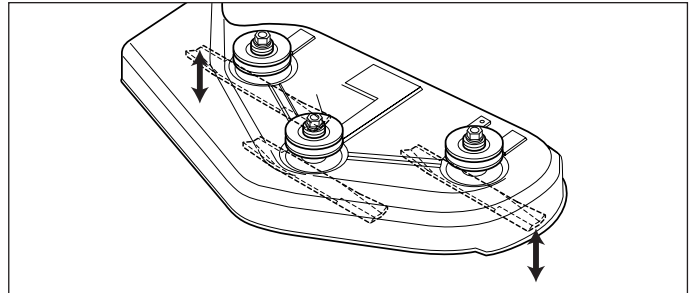
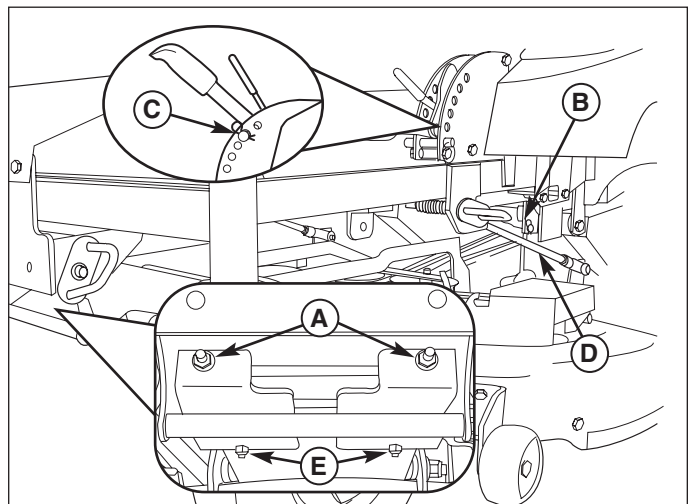

Figure 18. Orient Blades Side-to-Side
Figure 20. Mower Leveling
3. Place the mower cutting height pin in the 4th hole from the bottom (see insert, Figure 20). Arrange the outside mower blades so that they are pointing from side-to-side (Figure 18).
4. Measure the distance between the outside tips of each blade and the ground (Figures 18 & 19). If there is more than 1/8" (3mm) difference between the measurements on each side, proceed to step 5. If the difference is 1/8" (3mm) or less, proceed to step 6.
5. Use the rear leveling links (B, Figure 20) to adjust the side-to-side leveling of the deck. Repeat step 4 if necessary.
8. Check the length of the hanger rods. The rear hanger rods (D, Figure 20) should be 15" (38,1 cm) and is not adjusted. To adjust the pitch of the mower deck, adjust the front leveling nuts only.
9. Loosen the front lock nuts (E, Figure 20).
10. Turn the leveling nuts (A, Figure 20) counter-clockwise to lower the front of mower deck. Turn the nuts clockwise to raise the front of the mower. Make adjustments in small increments, trying to keep tension on both leveling nuts.
11. Tighten the front lock nuts (E).
3. Place the mower cutting height pin in the 4th hole from the bottom (C, Figure 20).